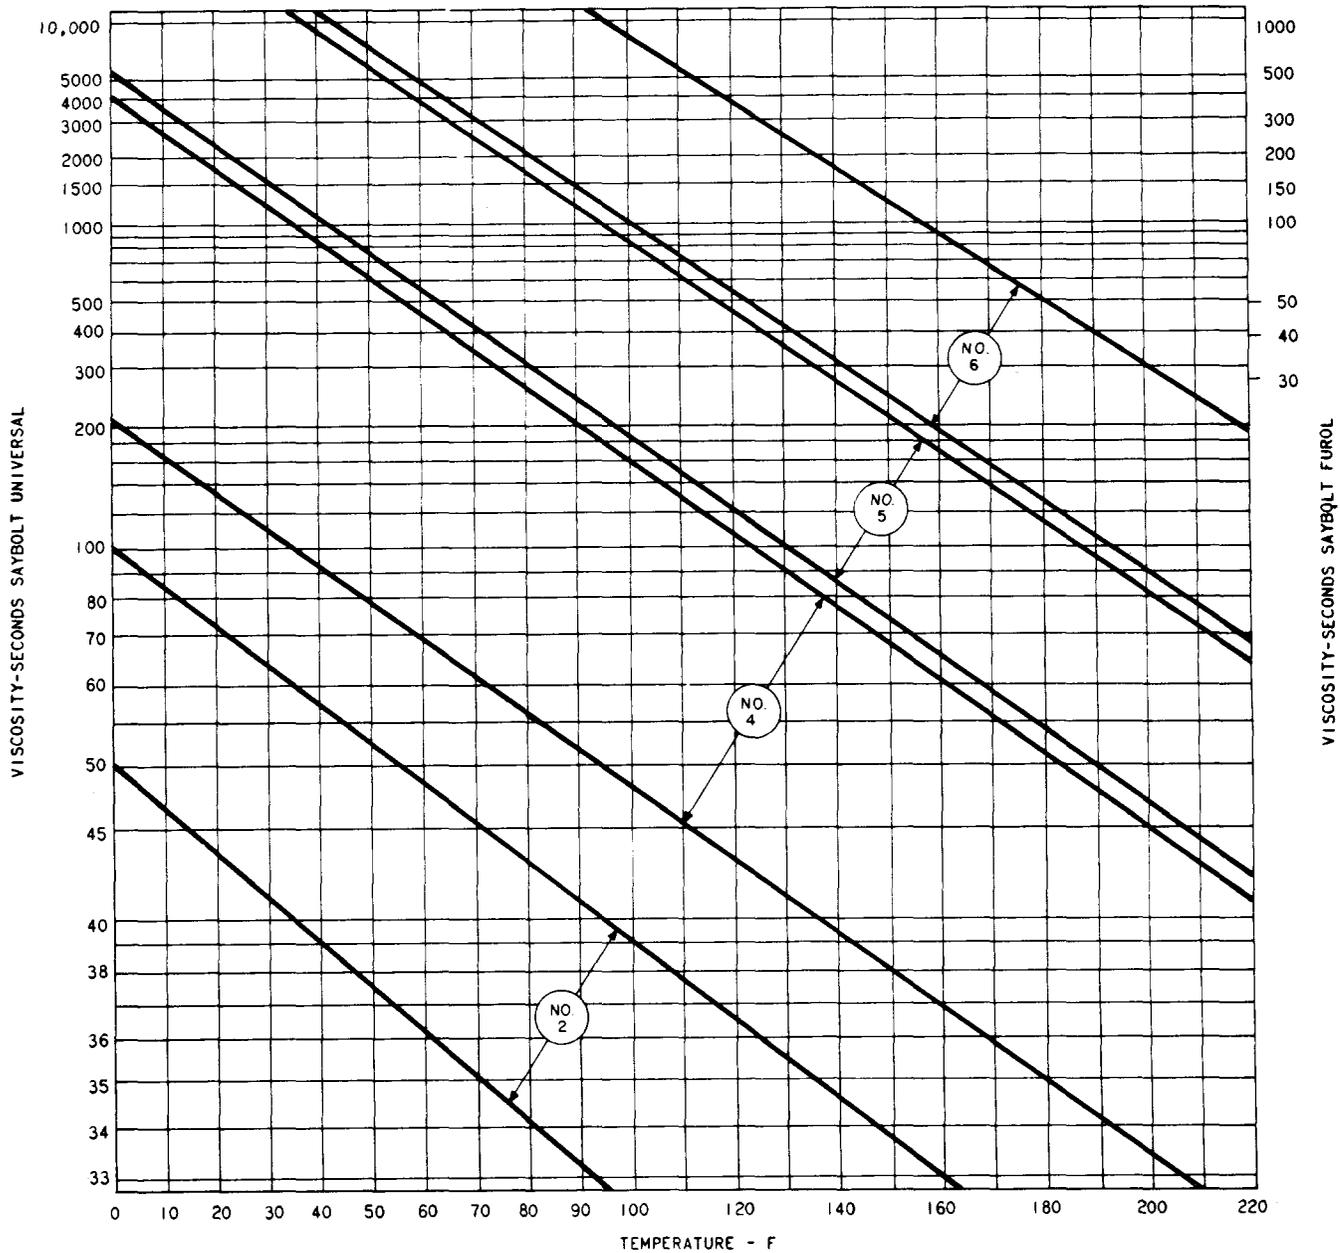

Fig. 11—Temperature-Viscosity Table (Reprinted with permission ASHRAE Guide and Data Book, 1963)
**5.09** The correct temperature range must be used for each grade of preheated oil. Underheating or overheating affects the terminal viscosity and actually interferes with the atomizing process. Underheated oil is too viscous for proper atomization, resulting in poor combustion, the generation of smoke and soot, and an excessively high oil consumption. Overheated oil, on the other hand, is too fluid for correct atomization and is subject to the same type of poor operating results as the underheated oil. To select the proper amount of preheating, the viscosity of the oil delivered should be obtained for each tank delivery. The viscosities for rotary cup atomizing burners are 150 to 450 SSU. No. 4 fuel oils, with a maximum viscosity of 125 SSU at 100°F, do not require preheating except where the oil is stored underground in northern locations. Cold No. 5 normally has a range of 150 to 200 SSU 100°F. Hot No. 5 normally has a range of 200 to 800 SSU 100°F. No. 6 (Bunker C) has a range of 900 to 1000 SSU 100°F. If the viscosity is known (obtain from oil dealer), then the correct temperature range can be selected from Fig. 11. The correct temperature should be obtained by raising the temperature of the oil in gradual steps through the table range until the most efficient combustion is obtained.